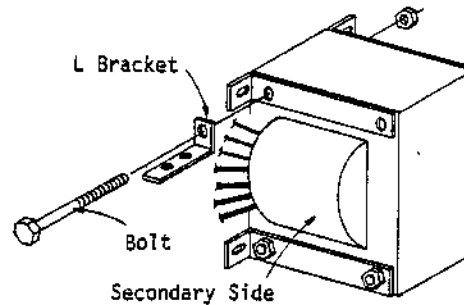

Figure 5-55. "L" Bracket Mounting
5-64. TRANSFORMER (Figures 5-55 through 5-59)
1. Orient the transformer with the secondary side (four large wires) facing you. Remove the two top bolts and nuts and use them to mount two "L" brackets (Bag 2) as shown in Figure 5-55.